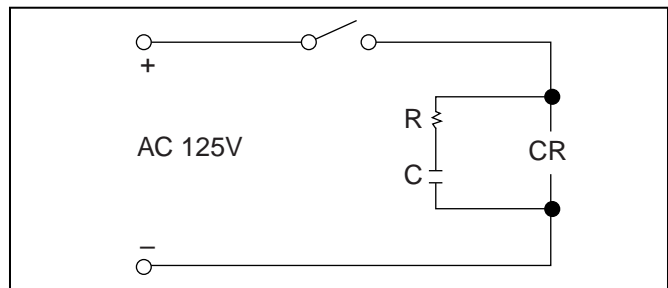

Figure 1.4 Resistor and Capacitor
2. Select the resistor and capacitor according to the load. See Figure 1.4.